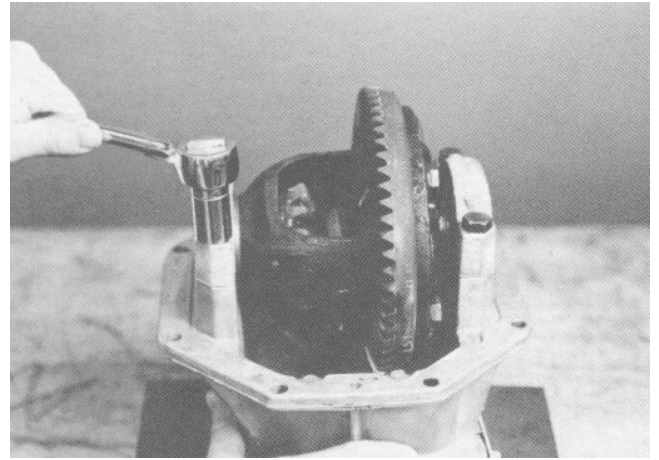

Figure 20
2. Remove the four bearing cap screws and remove the caps. Place the caps in a safe place to avoid damaging their machined surfaces (Fig. 20).